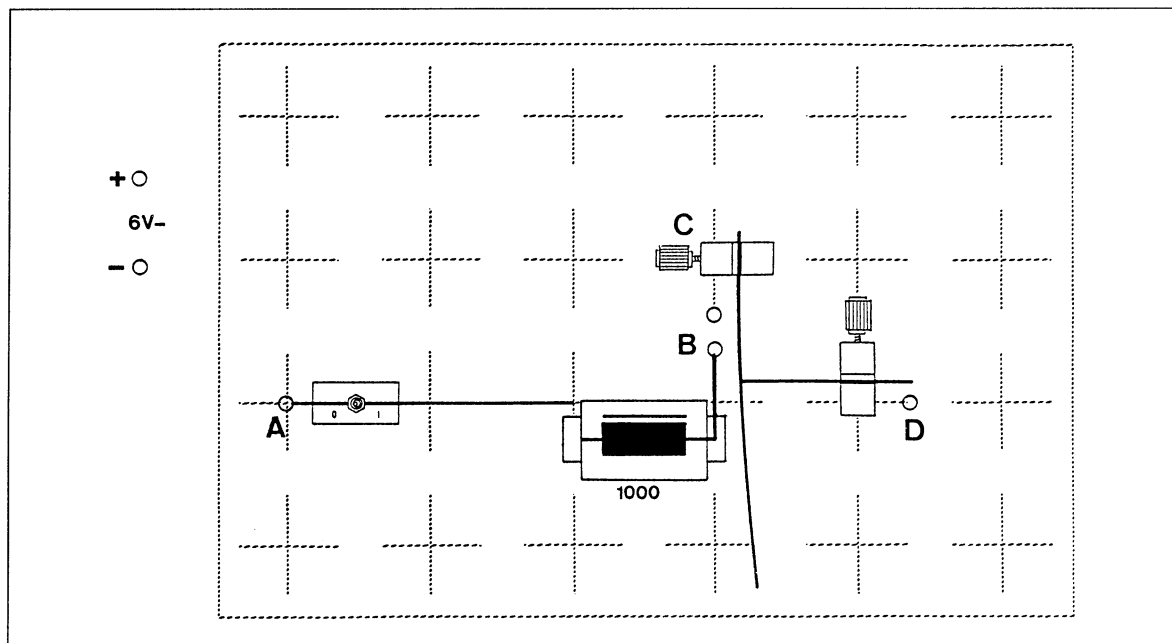

Fig. 4 Elements of a buzzer of the rastered socket panel, arrangement for ► 12.
12. Place the buzzer elements on the rastered socket panel as shown in Fig. 4.